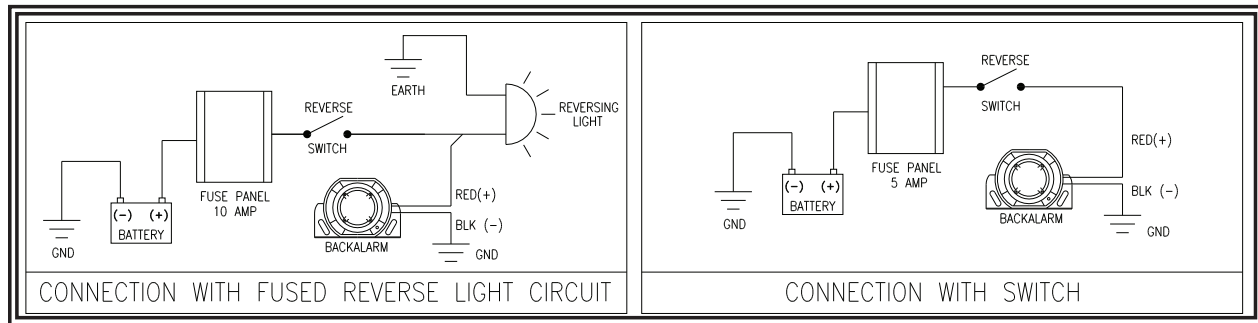

Figure 1
4. Complete the wiring according to the wiring diagram shown in figure 1. Use 18 gauge wire (minimum) and observe correct polarity. **WARNING!!** The ground connection **MUST** be attached to a solid metal body or chassis part that will provide a dependable ground path as long as the device is in use. Route wire in a protected manner in accordance with vehicle manufacturer recommendations. **NOTE:** The back-up alarm is sensitive to polarity and will not operate when its power connections are reversed unless the product is a manually adjustable alarm (see Figure 1).